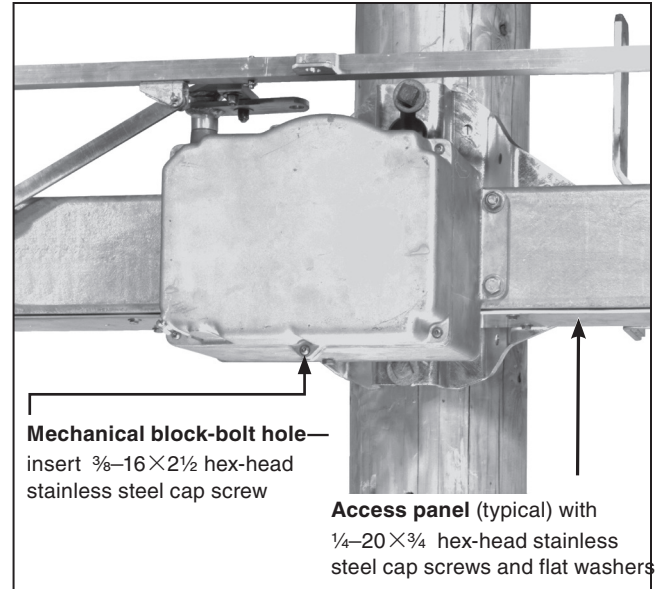

Figure 13. Reinstalling the access panel(s).
STEP 13. Reinstall the access panels removed in Step 2. Then, remove the blocking bolt from the mechanism and replace it with the short bolt removed in Step 1. See Figure 13.